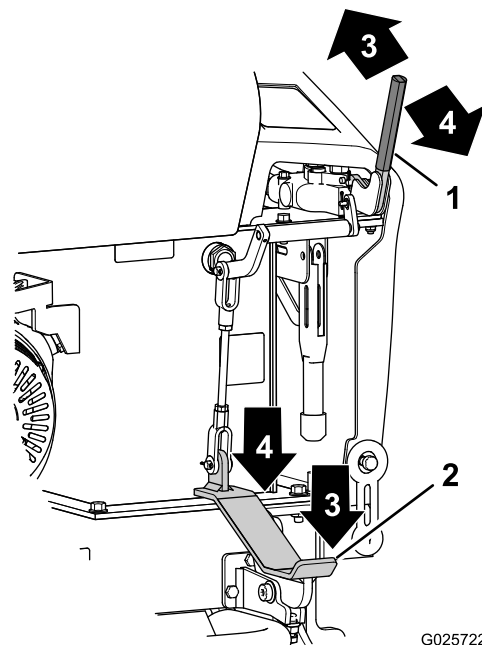

Figure 9
2. Dump the hopper by pushing forward the dump handle or pressing down on the forward part of the dump pedal (Figure 9).
3. Move the hopper to the upright position by pulling back the dump handle or pressing down on the rear part of the dump pedal (Figure 9).